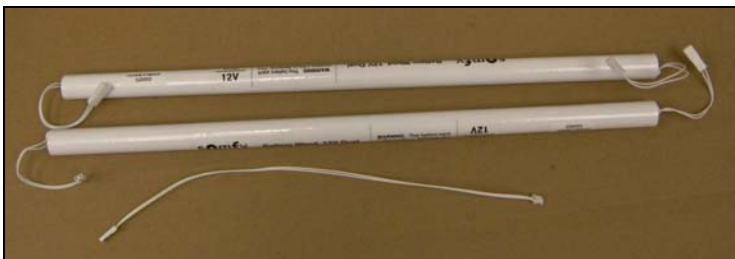

Figure 2 Battery wands and motor lead
- Find a location for the battery wand or wands (shown in Figure 2) that will be least visible but will allow you to plug the batteries into the motor using the 12" lead provided. (Battery wands last about five years, but you should also consider accessibility for changing battery wands.) Two battery wands can be placed side by side or end to end, whichever way they fit best.